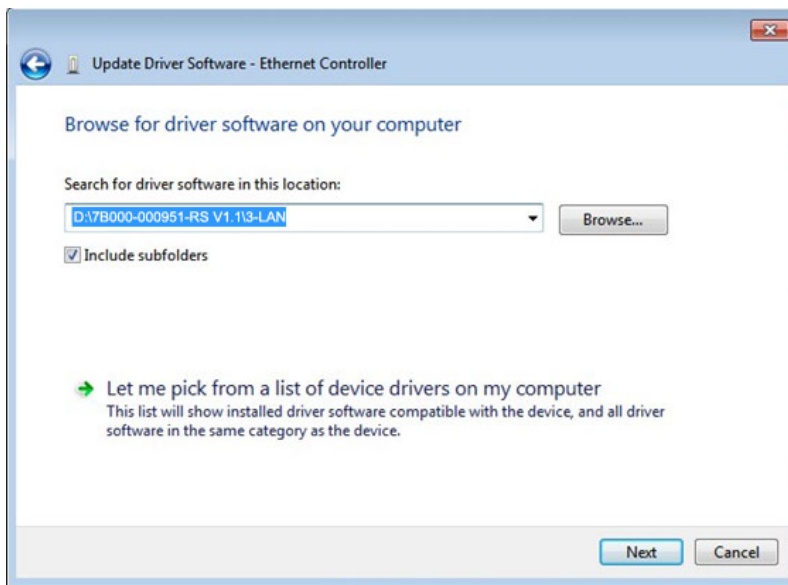

Figure 6-17: Locate Driver Files
Step 9: Click **Browse** to select “X:\13-LAN” directory in the **Locate File** window, where “X:\” is the system CD drive. (**Figure 6-17**).